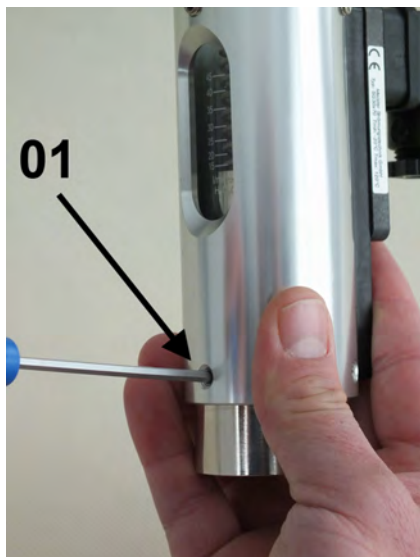

Fig. 38: Loosen screws
3. ➤ Secure the device with one hand to ensure the sight glass does not slip out. With the other hand, loosen the lower 3 hex head screws (Fig. 38/01).